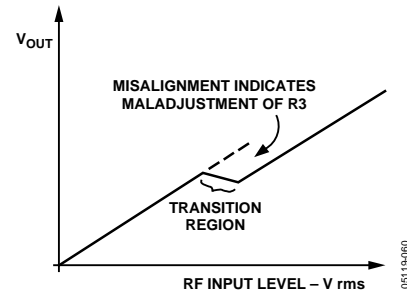

Figure 59. Intercept Adjustment
4. Finally (re)adjust R3 as required to remove any remaining misalignment in the transfer function (see Figure 59).